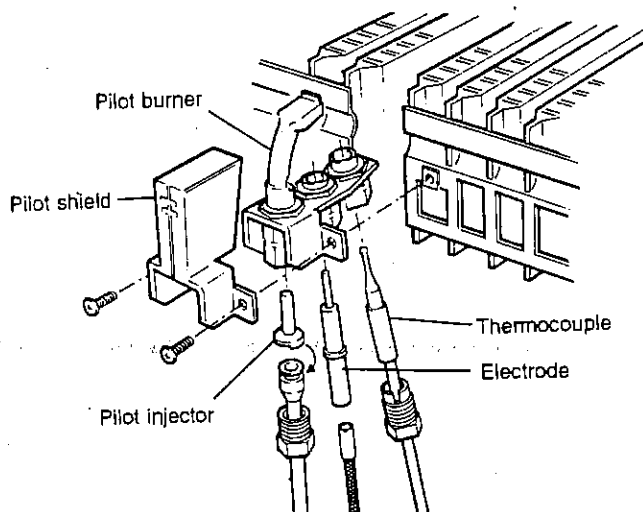

Fig. 18
8. Disconnect the pilot supply from the pilot burner, carefully withdraw it and remove the injector. Check the condition of the pilot injector and clean if necessary. Refit the pilot injector over the pilot supply and reconnect it to the pilot burner (see Fig. 18).
8.3 PILOT COMPONENTS - Figs. 18, 19
Disconnect the pilot supply and remove the injector. Fit the new injector over the pilot supply as shown in Fig. 18, and reconnect it to the pilot burner.